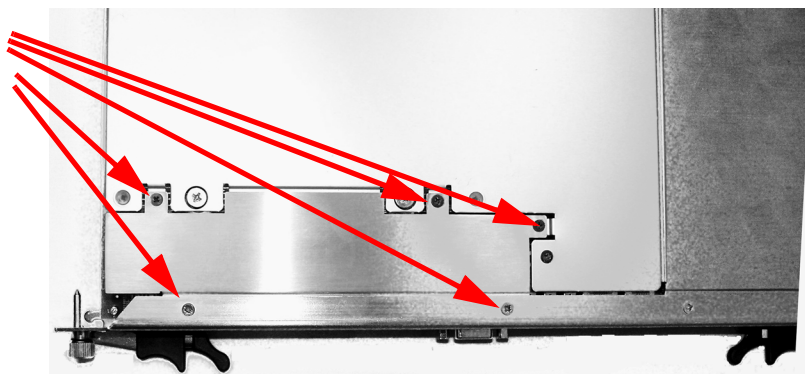

Figure 34 M9536A Disassembly for adding memory. Use a #1 Phillips screwdriver to remove and replace screws.
- 3 Position the controller, top side up on the workbench. Remove the four screws and panel as indicated in Figure 34.
- 2 Replace the cover panel and four screws (Figure 34).